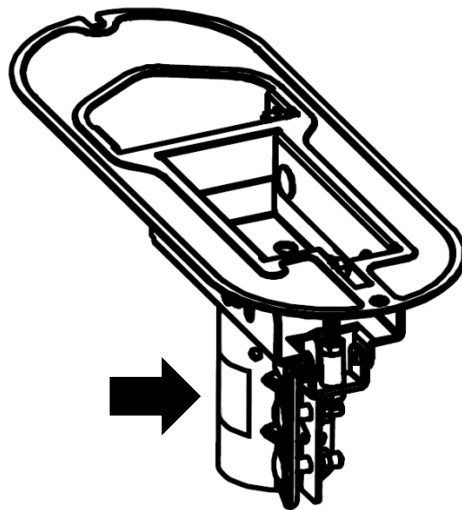

Figure 39: Installing the radiation hazard caution label
- Orient and align the label as shown in Figure 39.